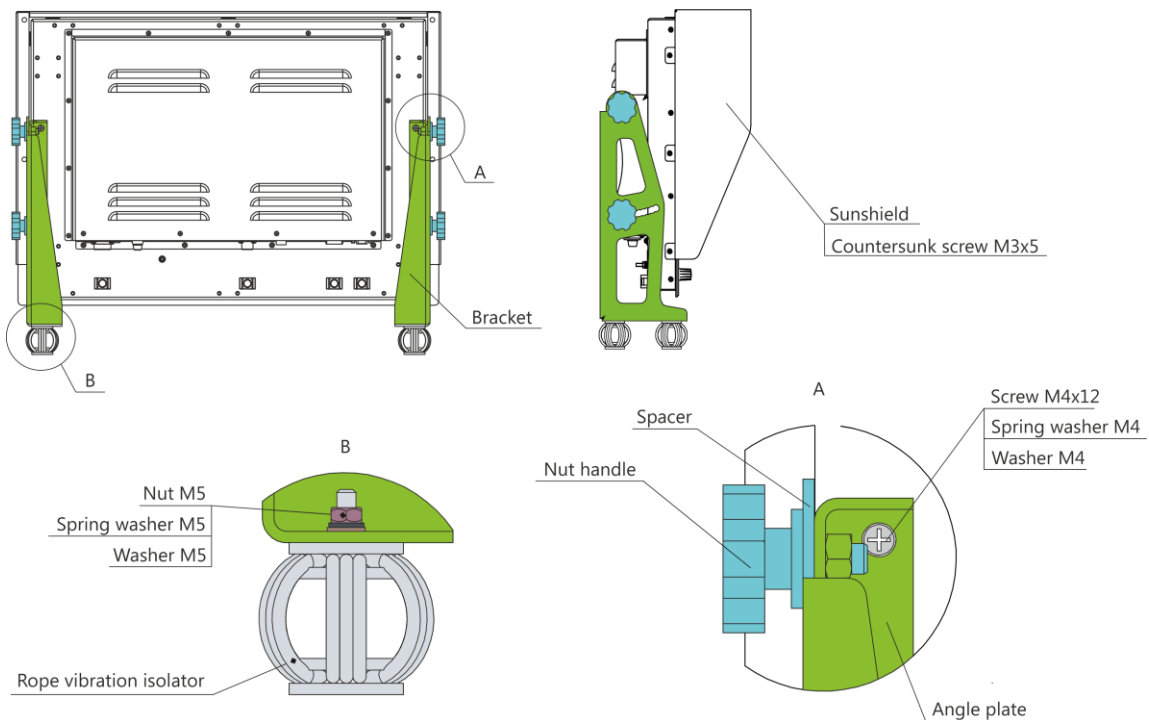

Figure 5 – Desk-top mounting with an adjustable bracket
3) Desk-top mounting with an adjustable bracket (see Figure 5) ensures mounting on a surface using adjustable brackets, nut handles and a mounting kit of metal ware.